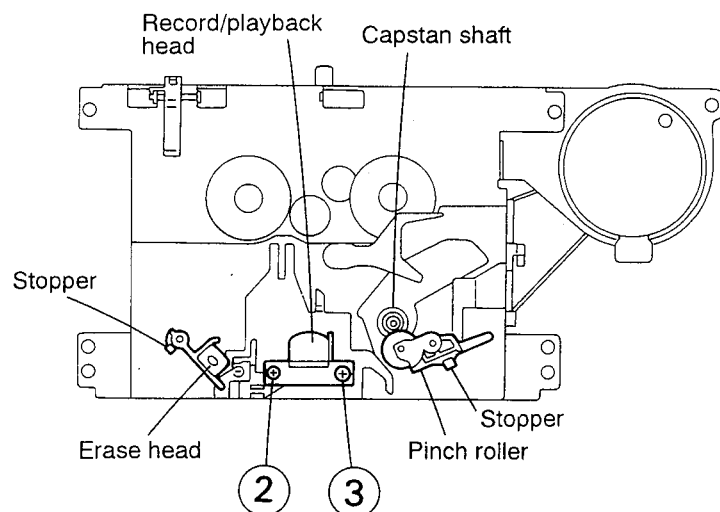

Fig. 2 - 28
■ Flywheel assembly (Fig. 2 - 30)
1. E. washer retaining the flywheel assembly in the direction of arrow ⑤.
2. Pull the flywheel assembly out of the back side of the cassette mechanism in the direction of the arrow ⑥.